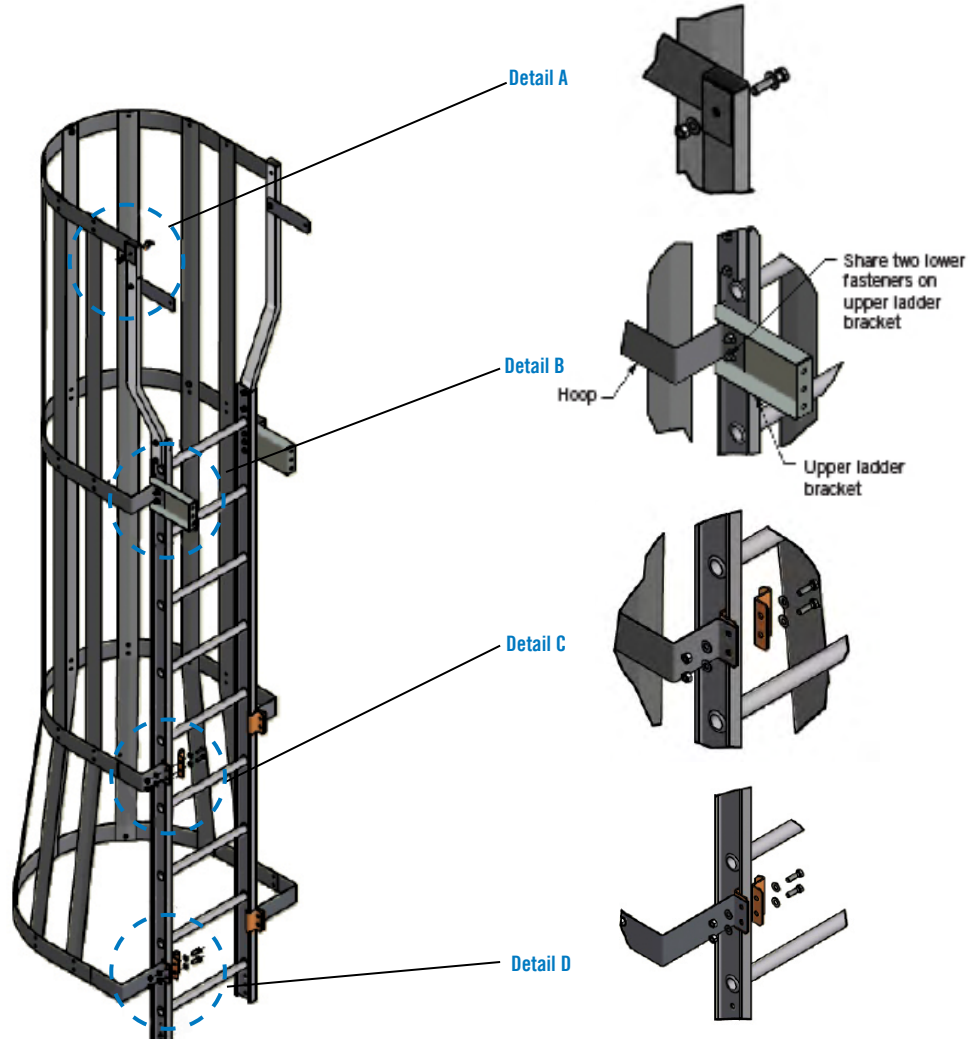

Figure 21. Safety Cage
2. Bolt the safety cage to the ladder using flatwashers and locknuts. Orient all fasteners with bolt heads inside safety cage. See **Figure 21, Detail A through D** and refer to **Table 2** for the quantity of bolting locations for different safety cage heights.